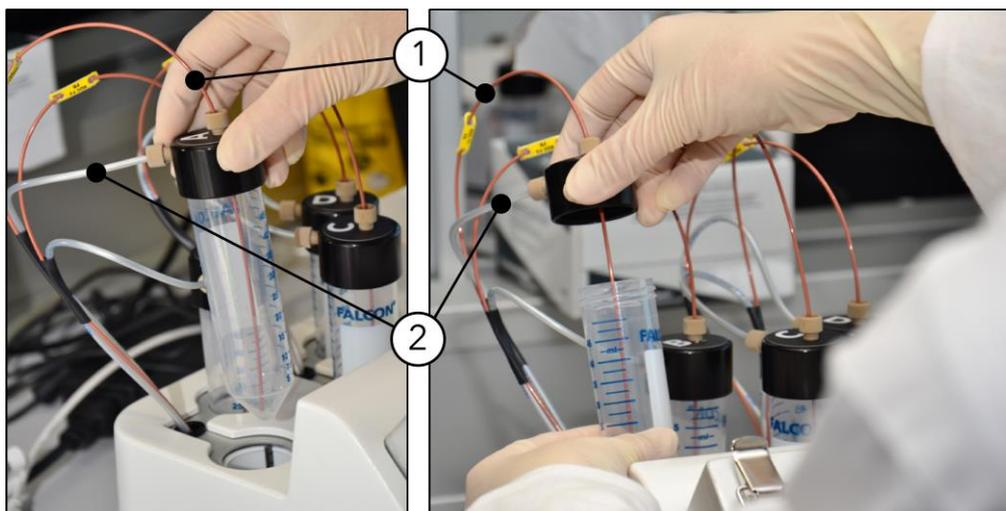

Figure 35) Conical tube loading for large reservoirs. 1. Fluidic tube. 2. Pneumatic tube.
5. Insert the new conical tube in the slot, place the fluidic tube inside and screw the lid on tightly, without tilting the tube to prevent the contents from spilling and liquids from entering the pneumatic tube (Figure 35). If the lid is not screwed on properly, there will be an air leakage during protocol execution that will impair LabSat®'s performance (see Section 9.3).